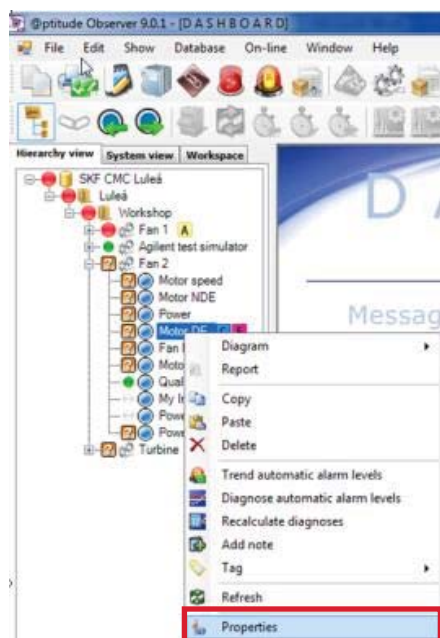

Fig. 2. Select "Properties".
- 1 Right-click on a machine in the hierarchy tree and select **Properties** (→ **fig. 2**).